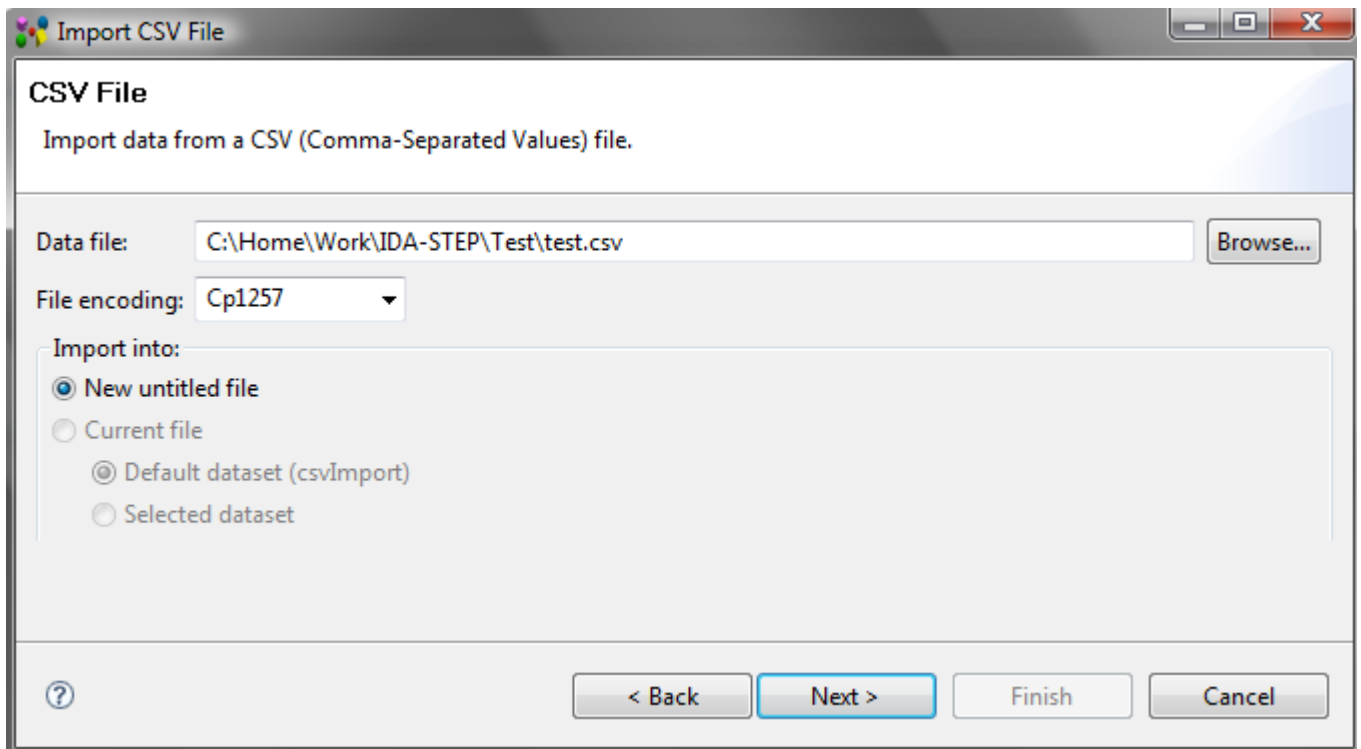

Figure 1. Import CSV file wizard page to select file to be imported
- The first **Import CSV** wizard page appears to select a CSV file (see Figure 1):